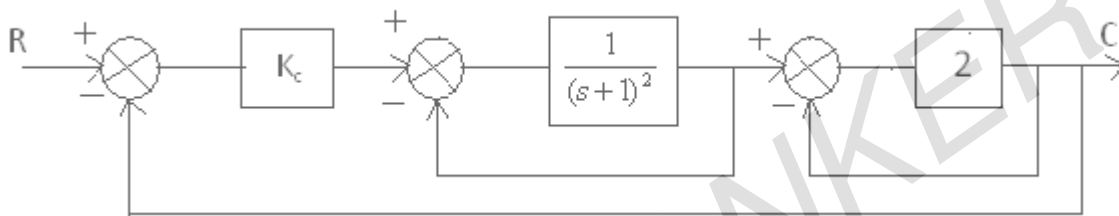

Figure 9:
1. For the control system show below figure 9: